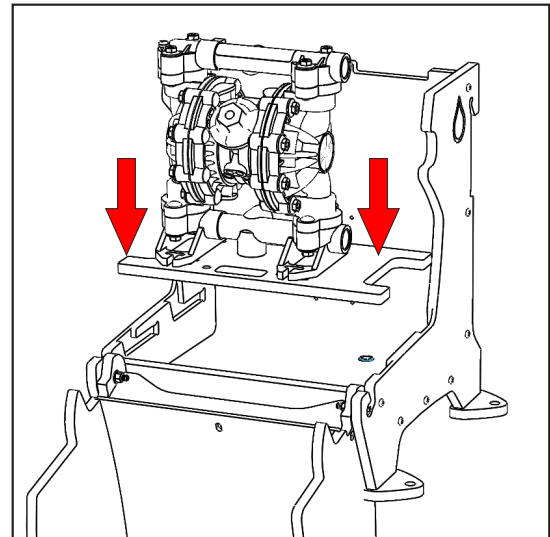

Fig. 9.2: Plate with pump lowered into track
2. Once secure, re-insert the Mounting Plate, with the ports of the pump oriented to the access ports on the Pump Box, as shown in [Figure 9.2].